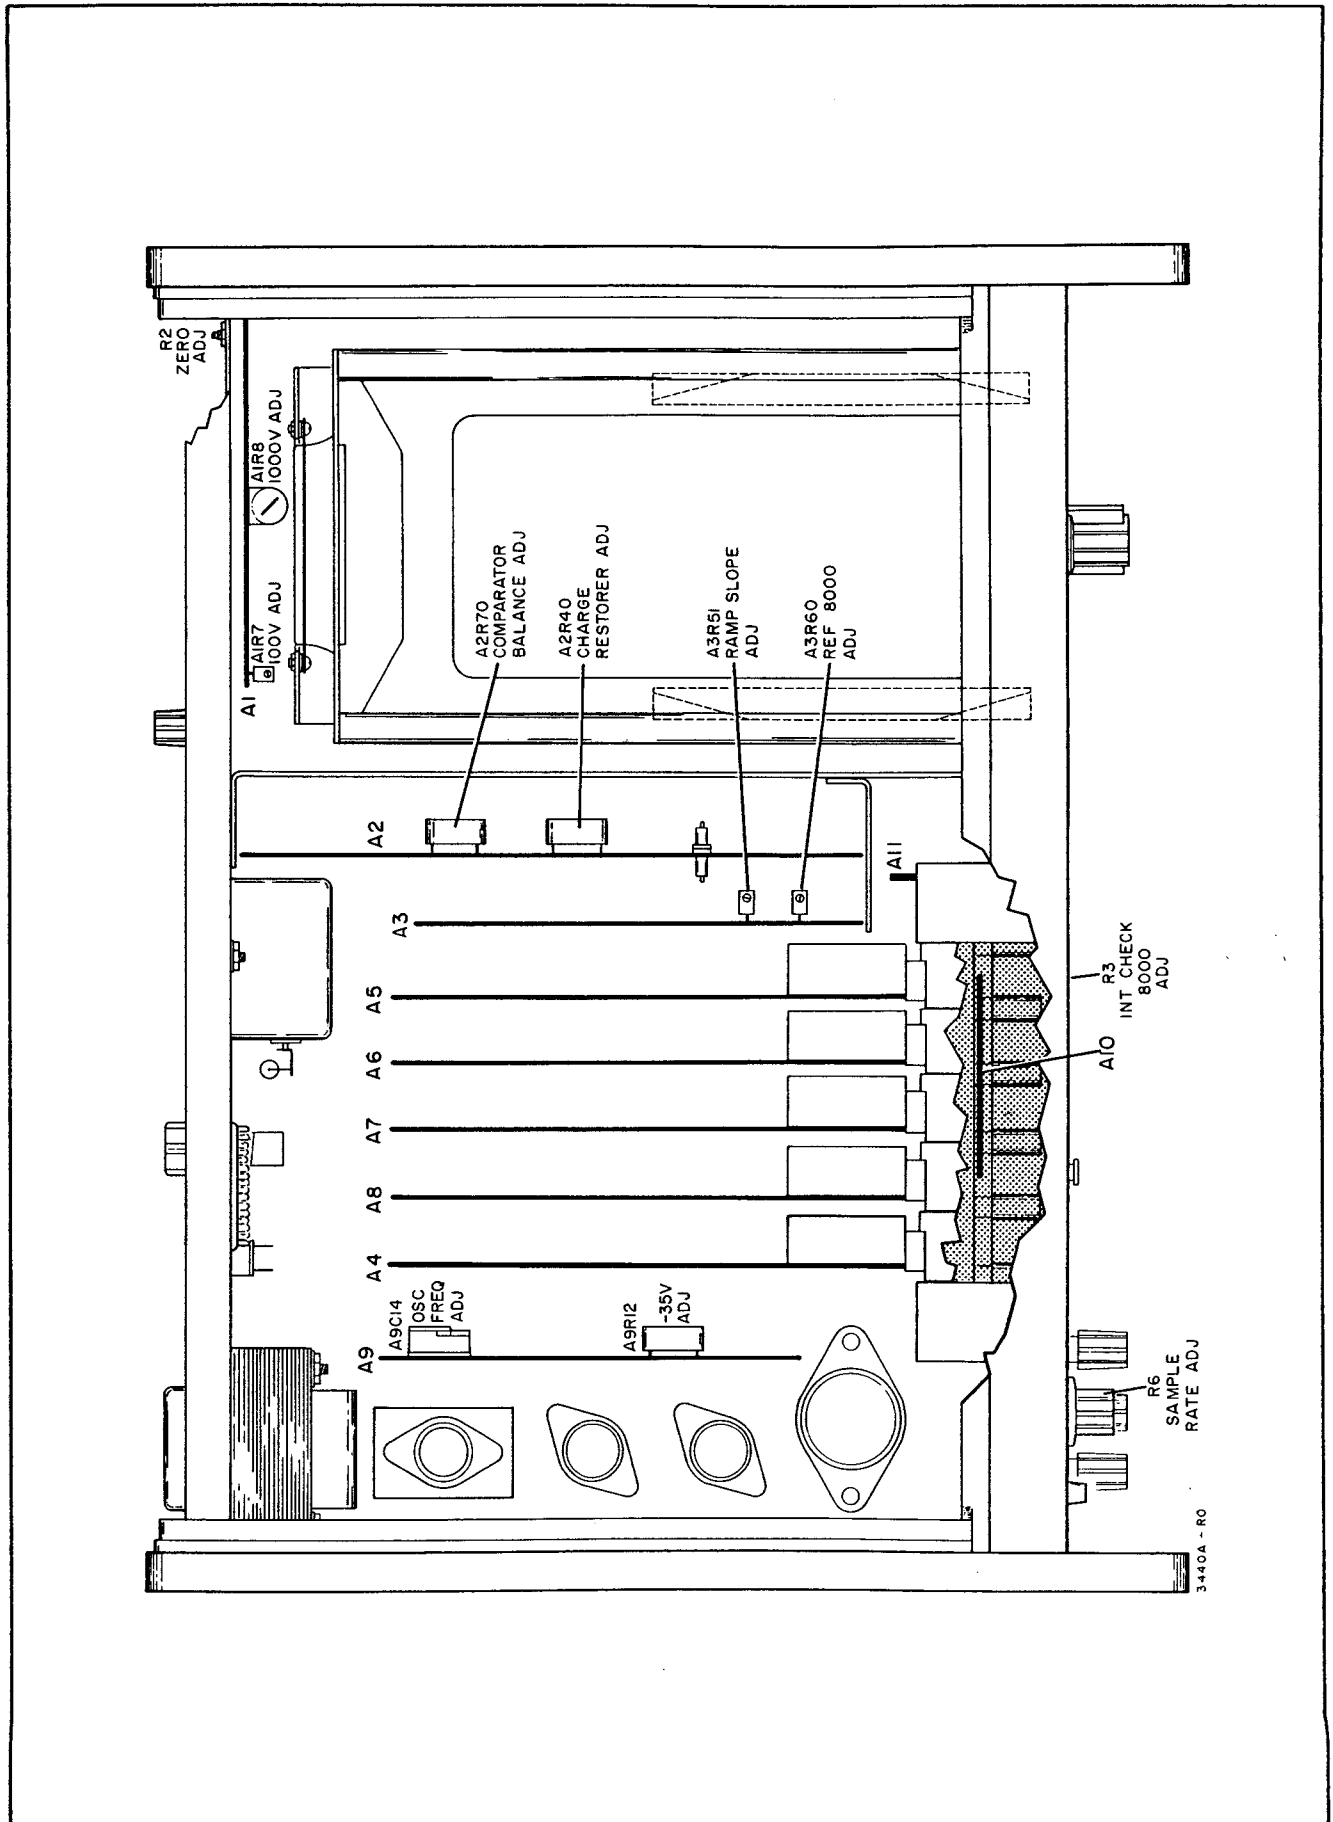

Figure 5-8. Location of Adjustments
5-16. The following test and adjustment procedures should be performed only if it has been definitely determined by the Performance Checks given in Paragraphs 5-3 through 5-12 that the Model 3440A is out of specifications. Figure 5-8 shows the location of internal adjustments.
- 2) Adjust A2R70 (Comparator Balance) until readout display is 0.000 (see Figure 5-8).
- d. Adjust A3R51 (Ramp Slope) for front panel display of +8.000. (See Figure 5-8.) Front panel INT CHECK 8000 adjust may be used for fine adjustment.
- g. Adjust A1R7 (100 v adj) for front panel display of +80.00. (See Figure 5-8.)